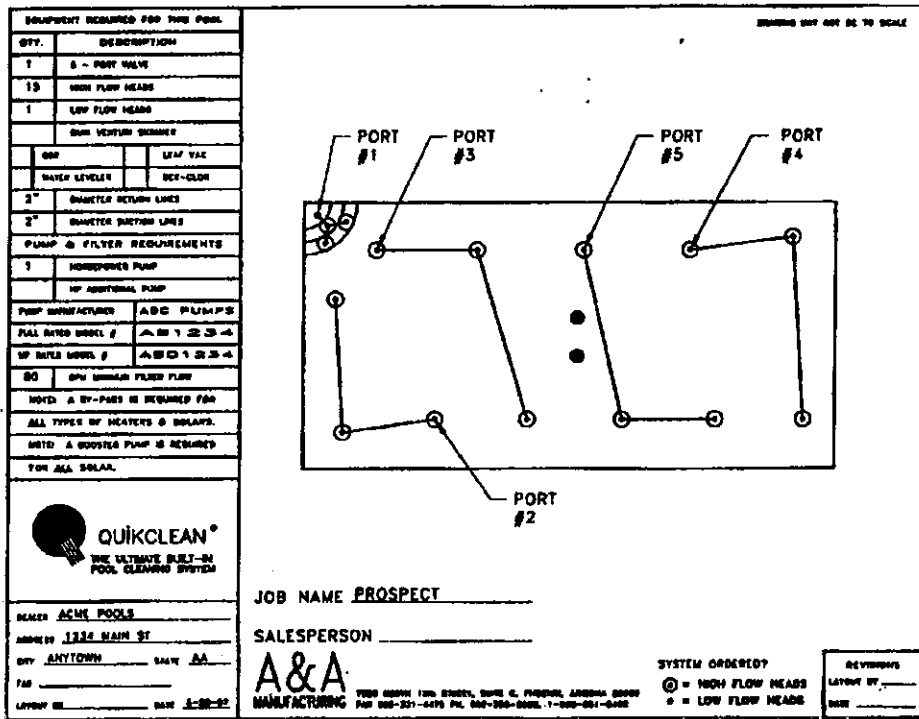

Figure 9-1
2. Plumb down the skimmer niche first. Follow the trenching to the first set of cleaning heads (*See Figures 9-1 and 9-2*). Pipes must be plumbed as close to the back of the skimmer niche as possible. This will aid in the placement of the steel and assure maximum gunite strength in this area. Use only 2" Schedule 40 PVC pipe and fittings. Use both primer and glue liberally.